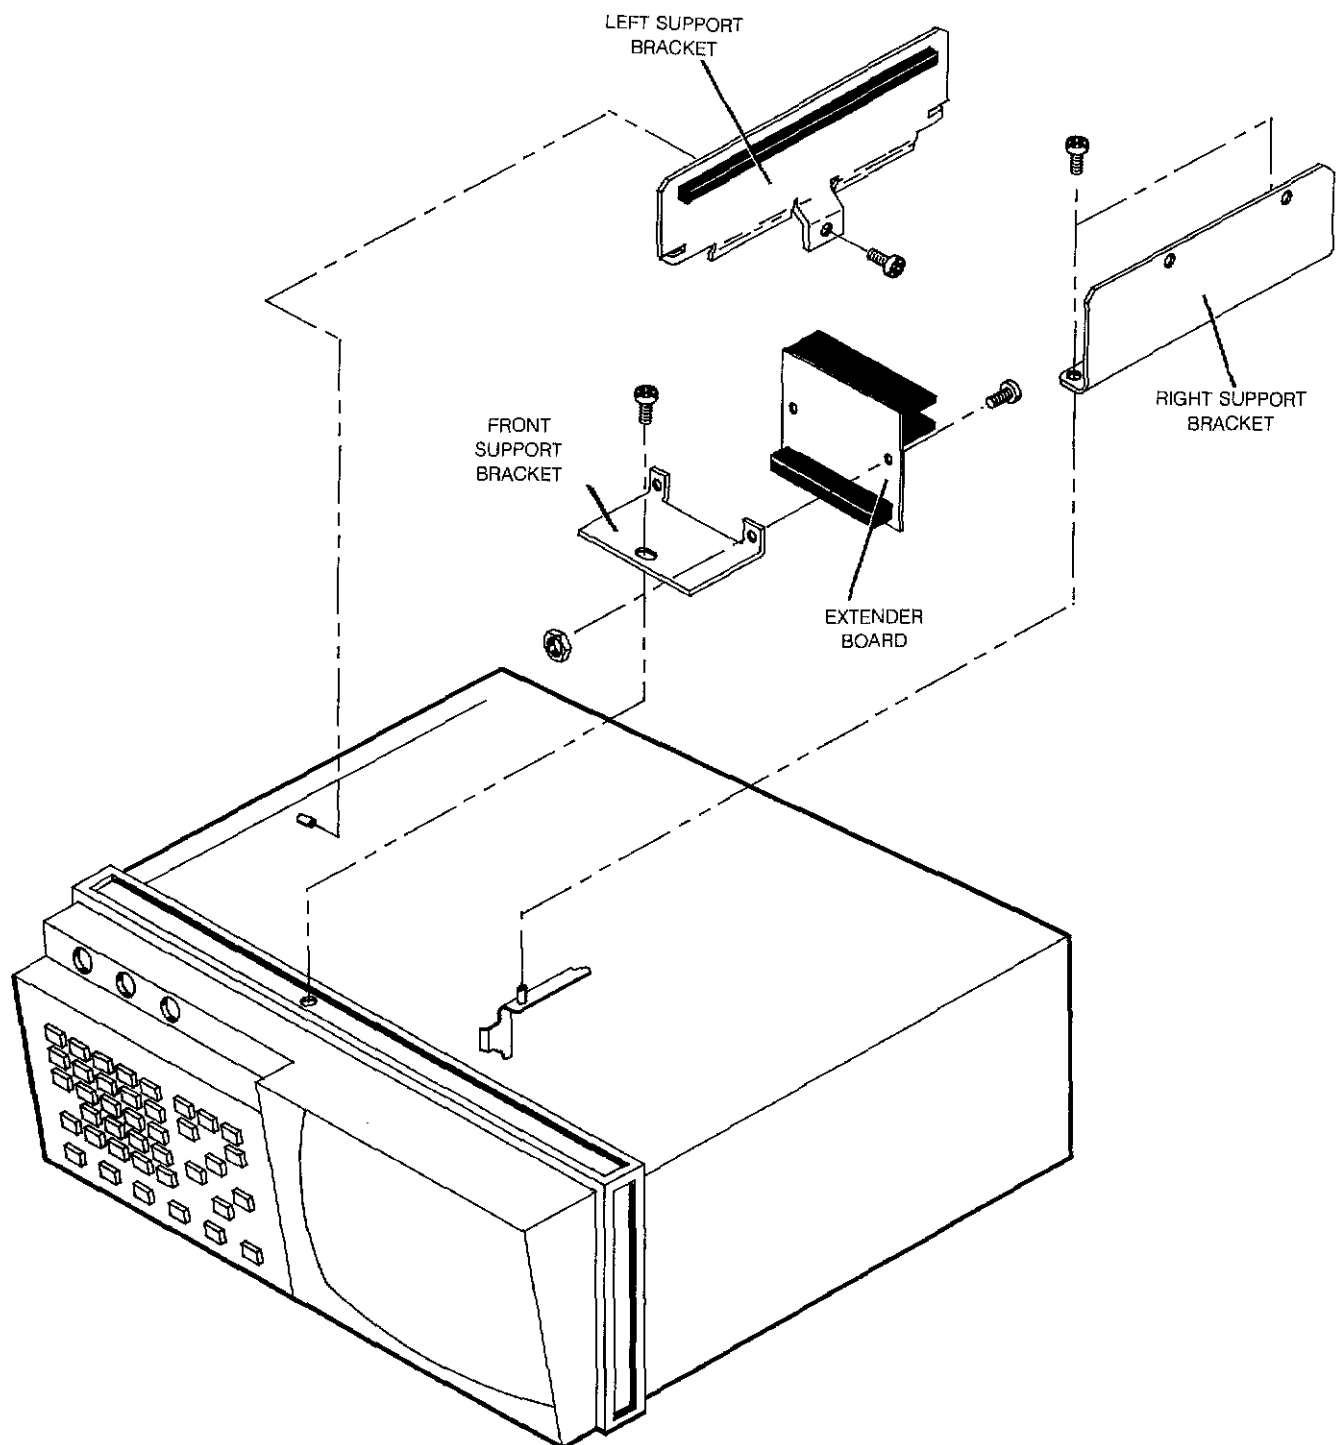

Figure 6-2. Analog Board Extender Assembly
2. Install Analog Extender Board and Analog board support brackets into HP 54201A/D as shown in figure 6-2.